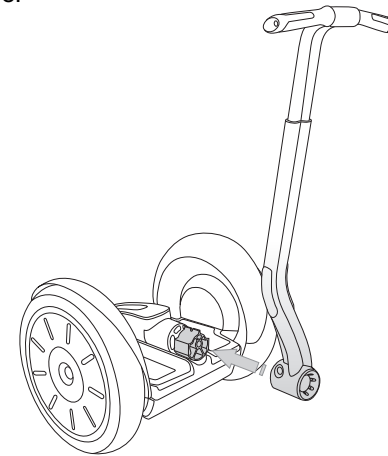

Figure 3. Attaching the LeanSteer Frame from the Pivot Base Assembly
4. Slide the LeanSteer Frame away from the Pivot Base Assembly as shown in Figure 3. Sliding the LeanSteer Frame away from the Pivot Base Assembly should require minimal force.
6. To attach the LeanSteer Frame, slide the LeanSteer Frame onto the Pivot Base Assembly. See Figure 3.